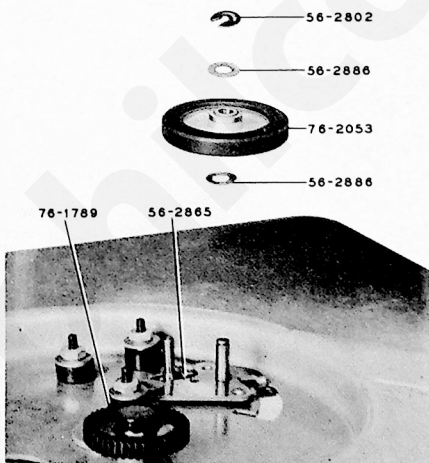

Figure 22. IDLER-WHEEL REMOVAL
c. Remove flat washer and idler wheel. See figure 22. Do not get grease or oil on rubber tire.